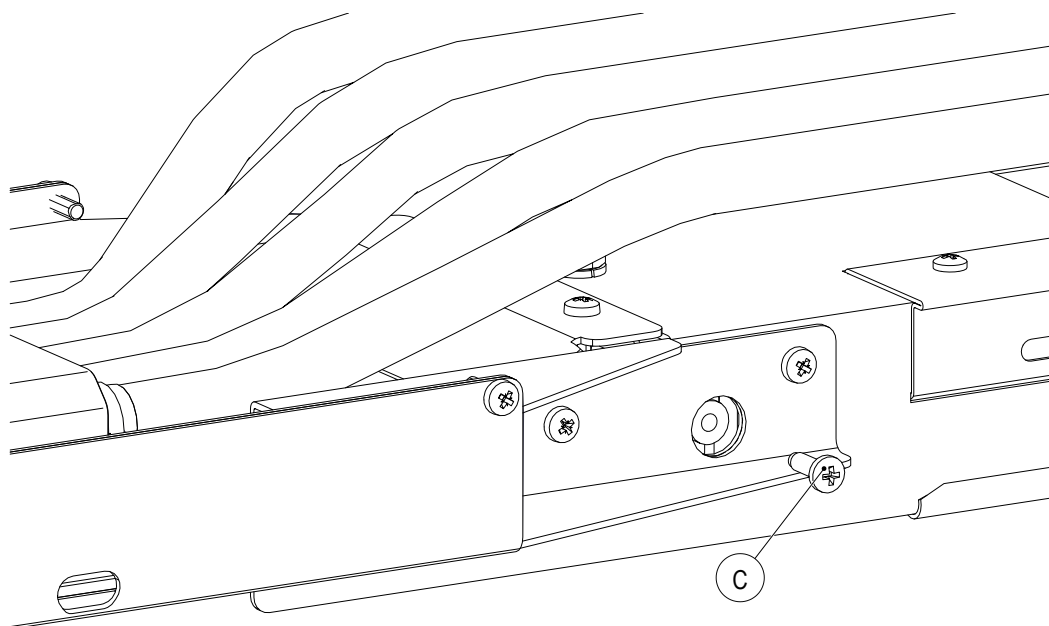

Fig. 83: Tighten fillister head screw (C)
- Using a crosshead screwdriver, tighten the fillister head screw (C) so that the screw head rests on the transverse bore of the anchor point (see Fig. 83).